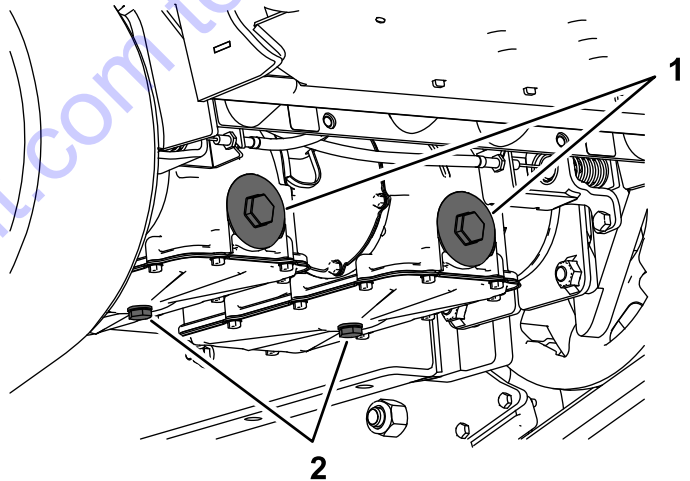

Figure 48
1. Rear bolt (2)
3. Side bolt (4)
5. Locate the drain plug in the bottom of each transmission, then place a drain pan under the plugs (Figure 48).
7. Remove the hydraulic-filter cap and hydraulic filter from each transmission (Figure 48).